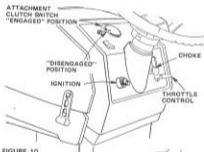
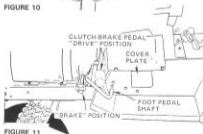
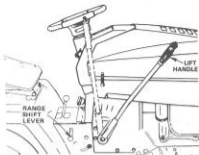
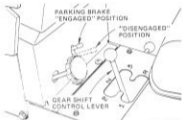

FIGURE 10
FIGURE 11
FIGURE 12
FIGURE 13
NOTE: THIS TRACTOR IS EQUIPPED WITH INTERLOCK SWITCHES TO PREVENT STARTING OF THE TRACTOR WHILE THE ATTACHMENT CLUTCH IS IN THE ENGAGED POSITION (FIG. 10) AND THE CLUTCH/BRAKE PEDAL IS IN DRIVE POSITION (FIG. 11).
1. Place Attachment Clutch Switch in "DISENGAGED" position (Fig. 10).
2. Push Clutch-Brake Pedal fully into brake position (Fig. 11).
3. Place Gear Shift Control Lever in "N" (neutral) start position (Fig. 13) and Range Shift Lever in "N" (neutral) position (Fig. 12).
4. Pull Choke out (Fig. 10).
5. Move Throttle Control to middle position (Fig. 10).
6. Turn Ignition Key (Fig. 10) to "START" position until Engine starts. NOTE: DO NOT RUN STARTER CONTINUOUSLY FOR MORE THAN TEN SECONDS PER/MINUTE. If engine does not start after several attempts, move Throttle Control to "F" (fast) position, wait a few minutes and try again.
2. Push Clutch-Brake Pedal down firmly (Fig. 11). Move Gear Shift Control Lever (Fig. 13) to desired gear and Range Shift Lever (Fig. 12) to "LO" (low) position.
2. Place Parking Brake Lever (Fig. 13) in "ENGAGED" position and release pressure from Clutch-Brake Pedal should remain in brake position. NOTE: MAKE SURE PARKING BRAKE WILL HOLD TRACTOR SECURE.
For pushing or towing your tractor, place Gear Shift Control Lever (Fig. 13) and Range Shift Lever (Fig. 12) to "N" (neutral) positions. NOTE: DO NOT TOW YOUR TRACTOR FASTER THAN SIX MILES PER HOUR.
- Lift Shaft (both ends) (Fig. 12).